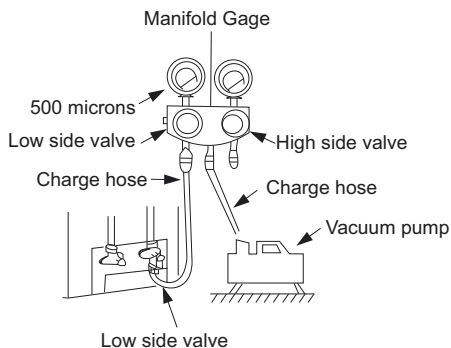

Fig. 17 – Manifold
3. Fully open the low side of manifold gage. (See Fig. 17)